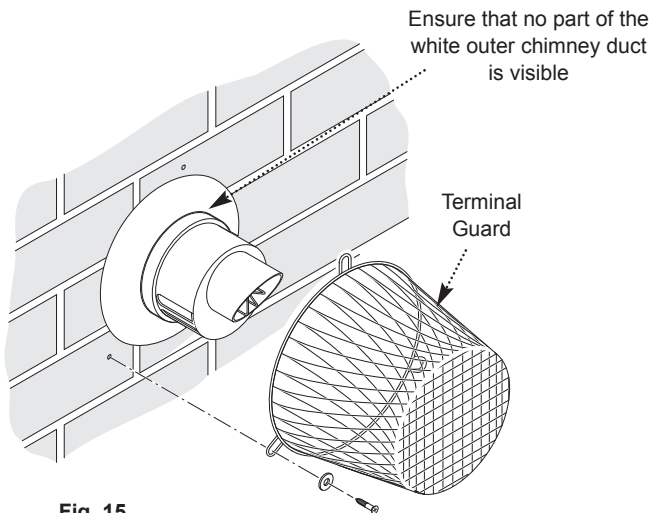

Fig. 15
1. When codes of practice dictate the use of terminal guards (Fig. 15) 'Multifit' accessory part no. 720627901 can be used (**NOTE:** This is not compatible with Flue Deflector referred to below).